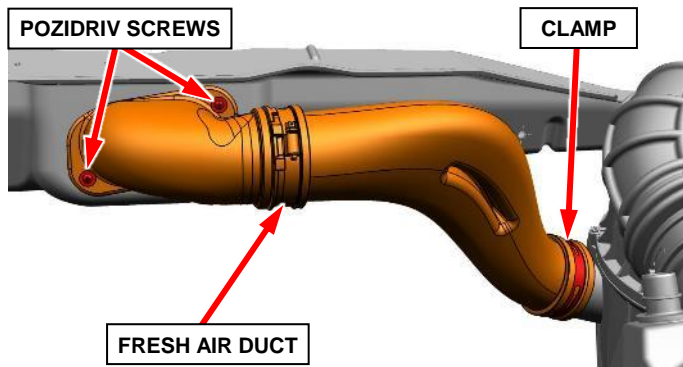

Figure 3 – Fresh Air Duct
3. Remove the two Pozidriv screws securing the fresh air duct to the upper radiator core support (Figure 3).
4. Loosen the clamp securing the fresh air duct to the air cleaner housing (Figure 3).
5. Remove the fresh air supply duct from the vehicle (Figure 3).
24. Position the fresh air duct to the vehicle (Figure 3).
25. Install the two Pozidriv screws securing the fresh air duct to the upper radiator core support, tighten securely (Figure 3).
26. Tighten the clamp securing the fresh air duct to the air cleaner housing, tighten to 5 N·m (44 in. lbs.) (Figure 3).